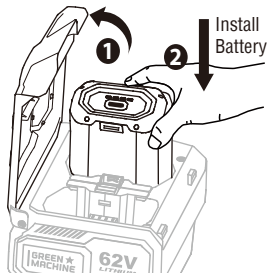

Fig. 4
1. Raise the battery cover. (1, Fig.4)
3. Align the ribs of the battery pack with the mounting slots in the battery port. Insert the battery pack into the battery compartment until you hear a “click”. Ensure that the latch snaps into place and the battery feels secure. (2, Fig.4)